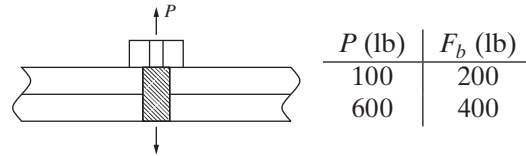

Figure P1.4 Bolted connection.
- 1-4.** In a bolted connection shown in Fig. P1.4, the force in the bolt F_b is given in terms of the external load P as $F_b = CP + F_i$.
- (a) Given the data in Fig. P1.4, determine the joint constant C and the preload F_i .